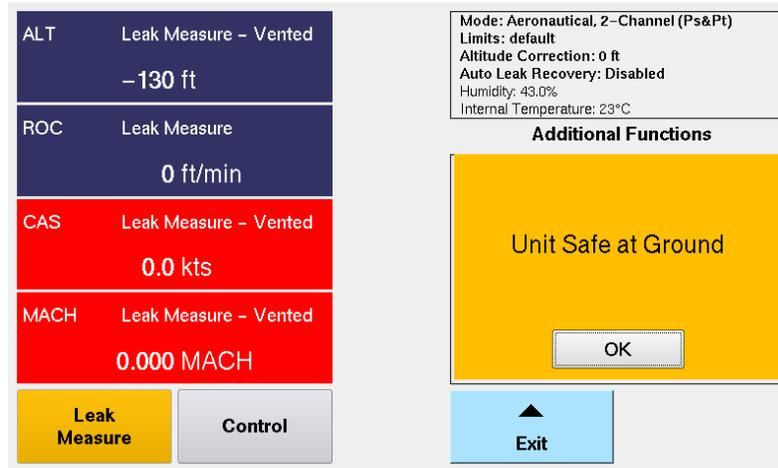

Figure F. 10 Unit Safe at Ground
16. Select “Yes”. The unit will briefly vent and a new screen is displayed with the message below (Fig. F. 10).